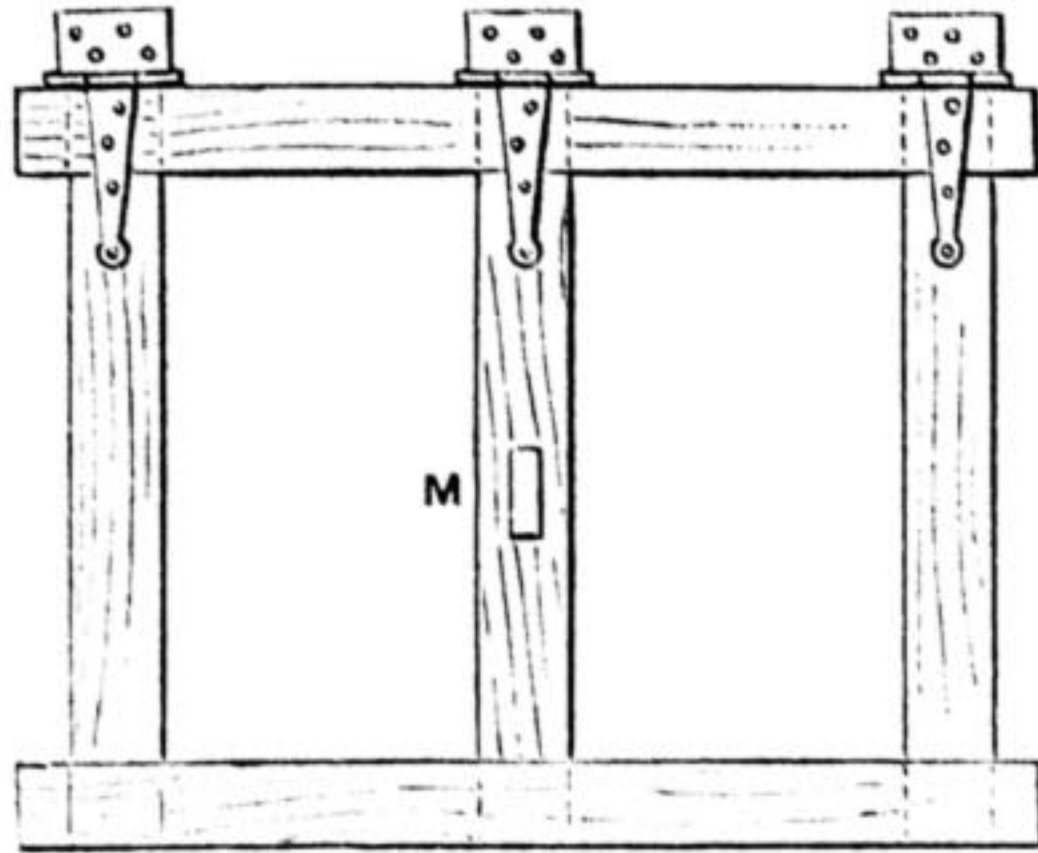
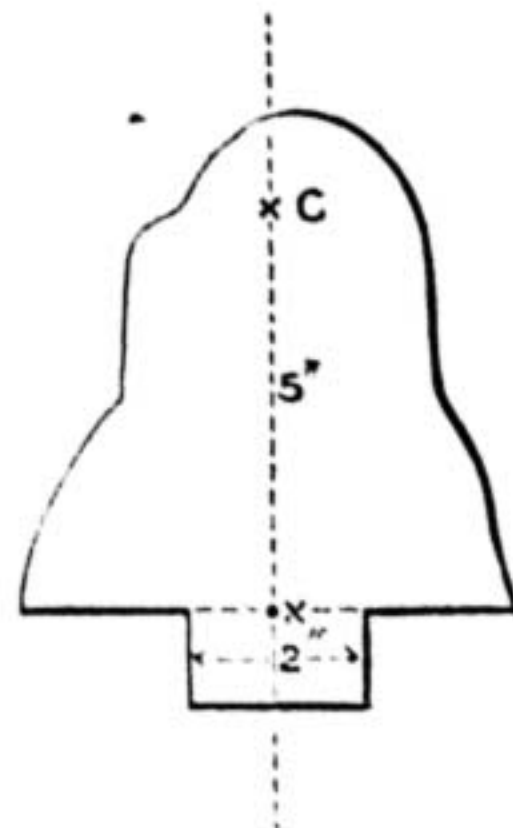
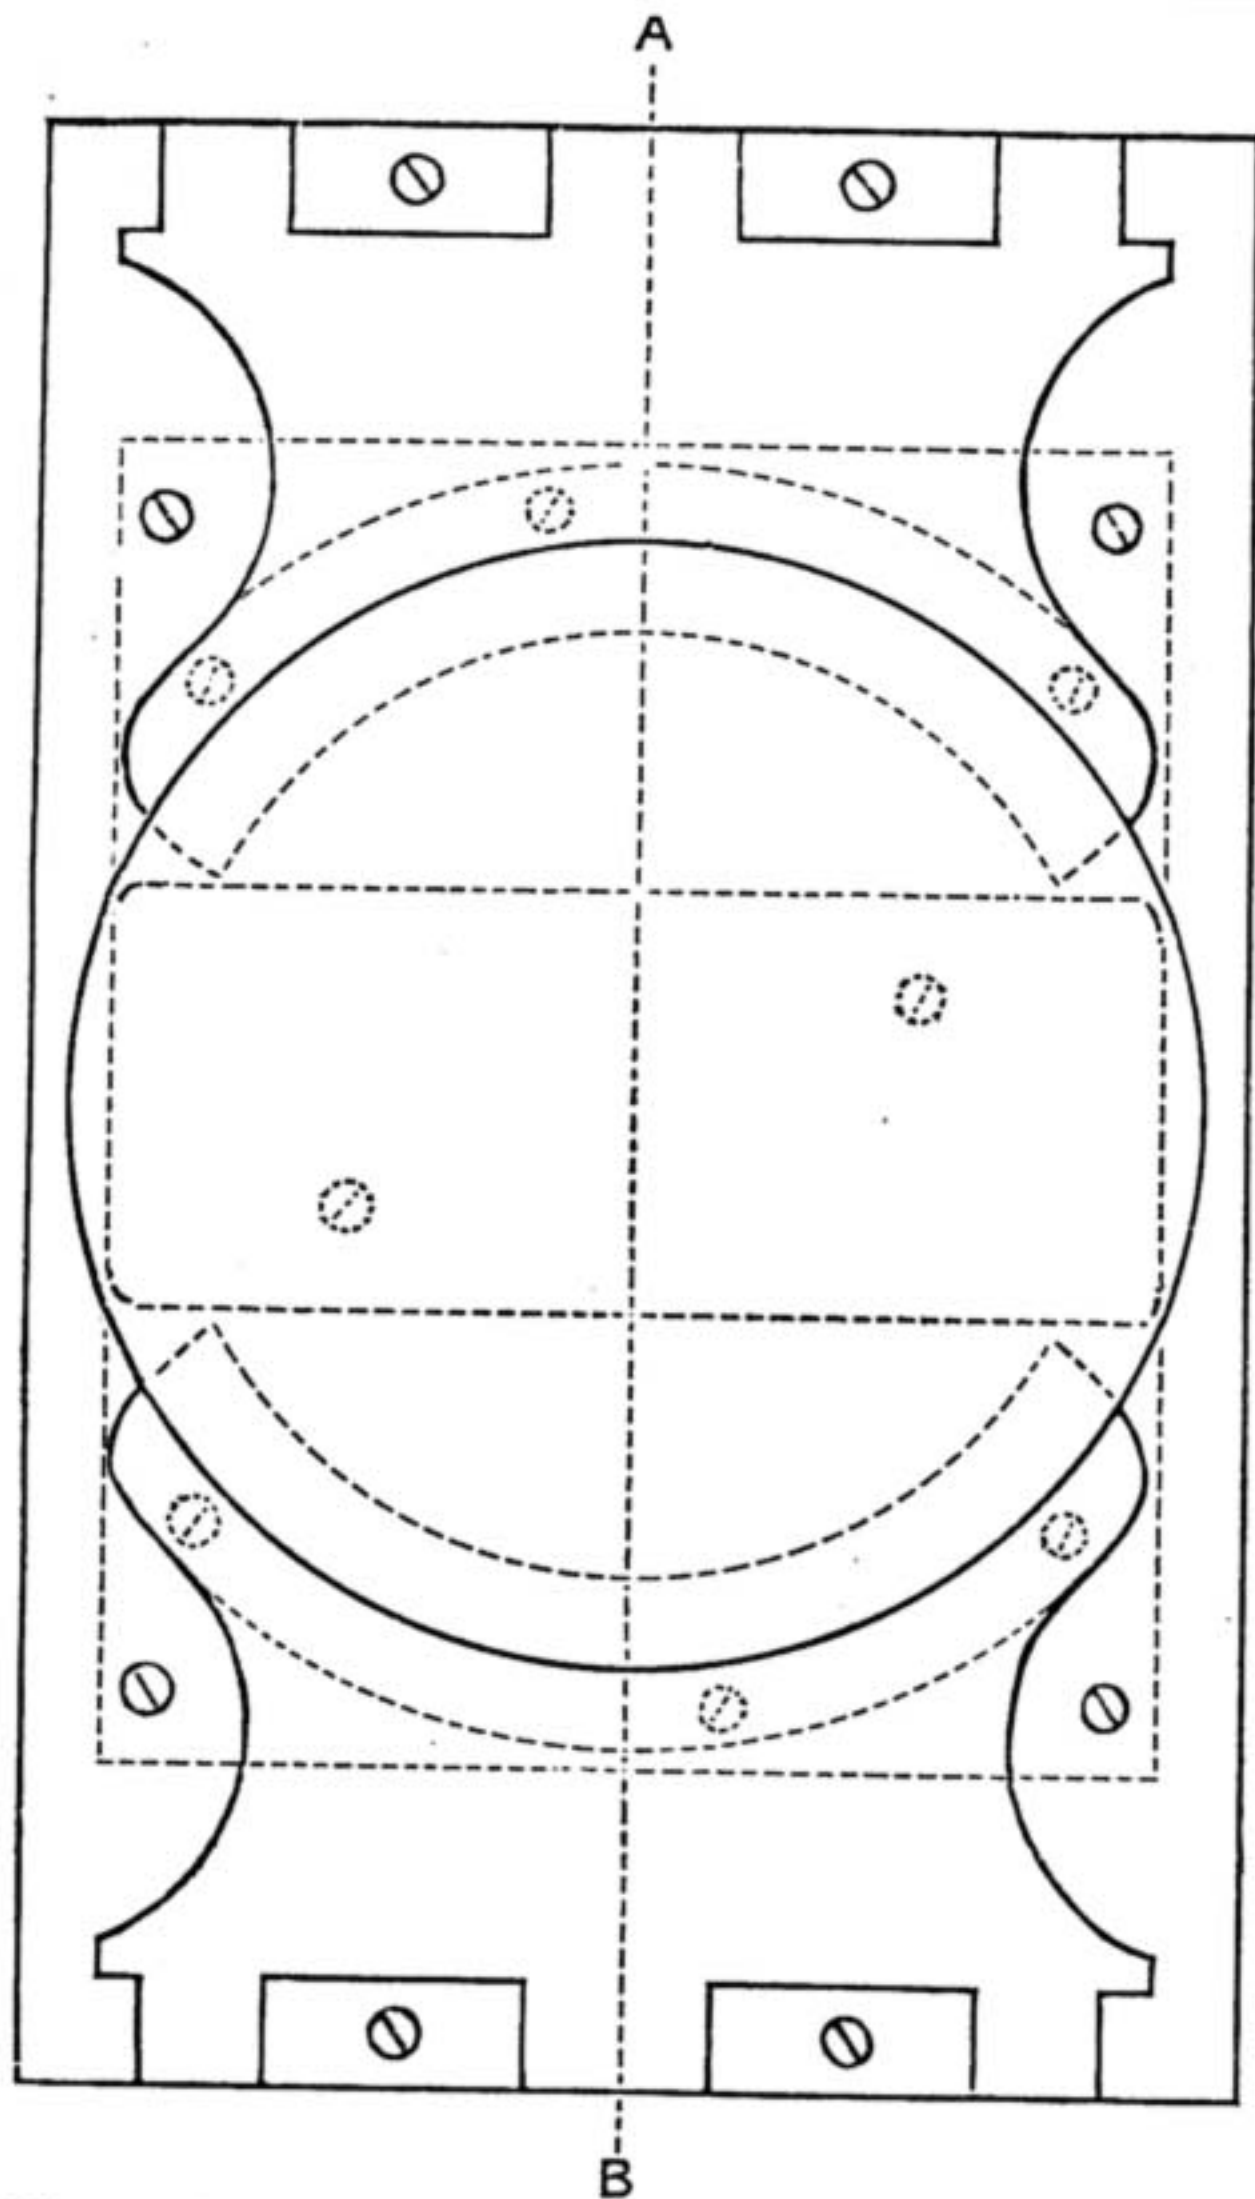
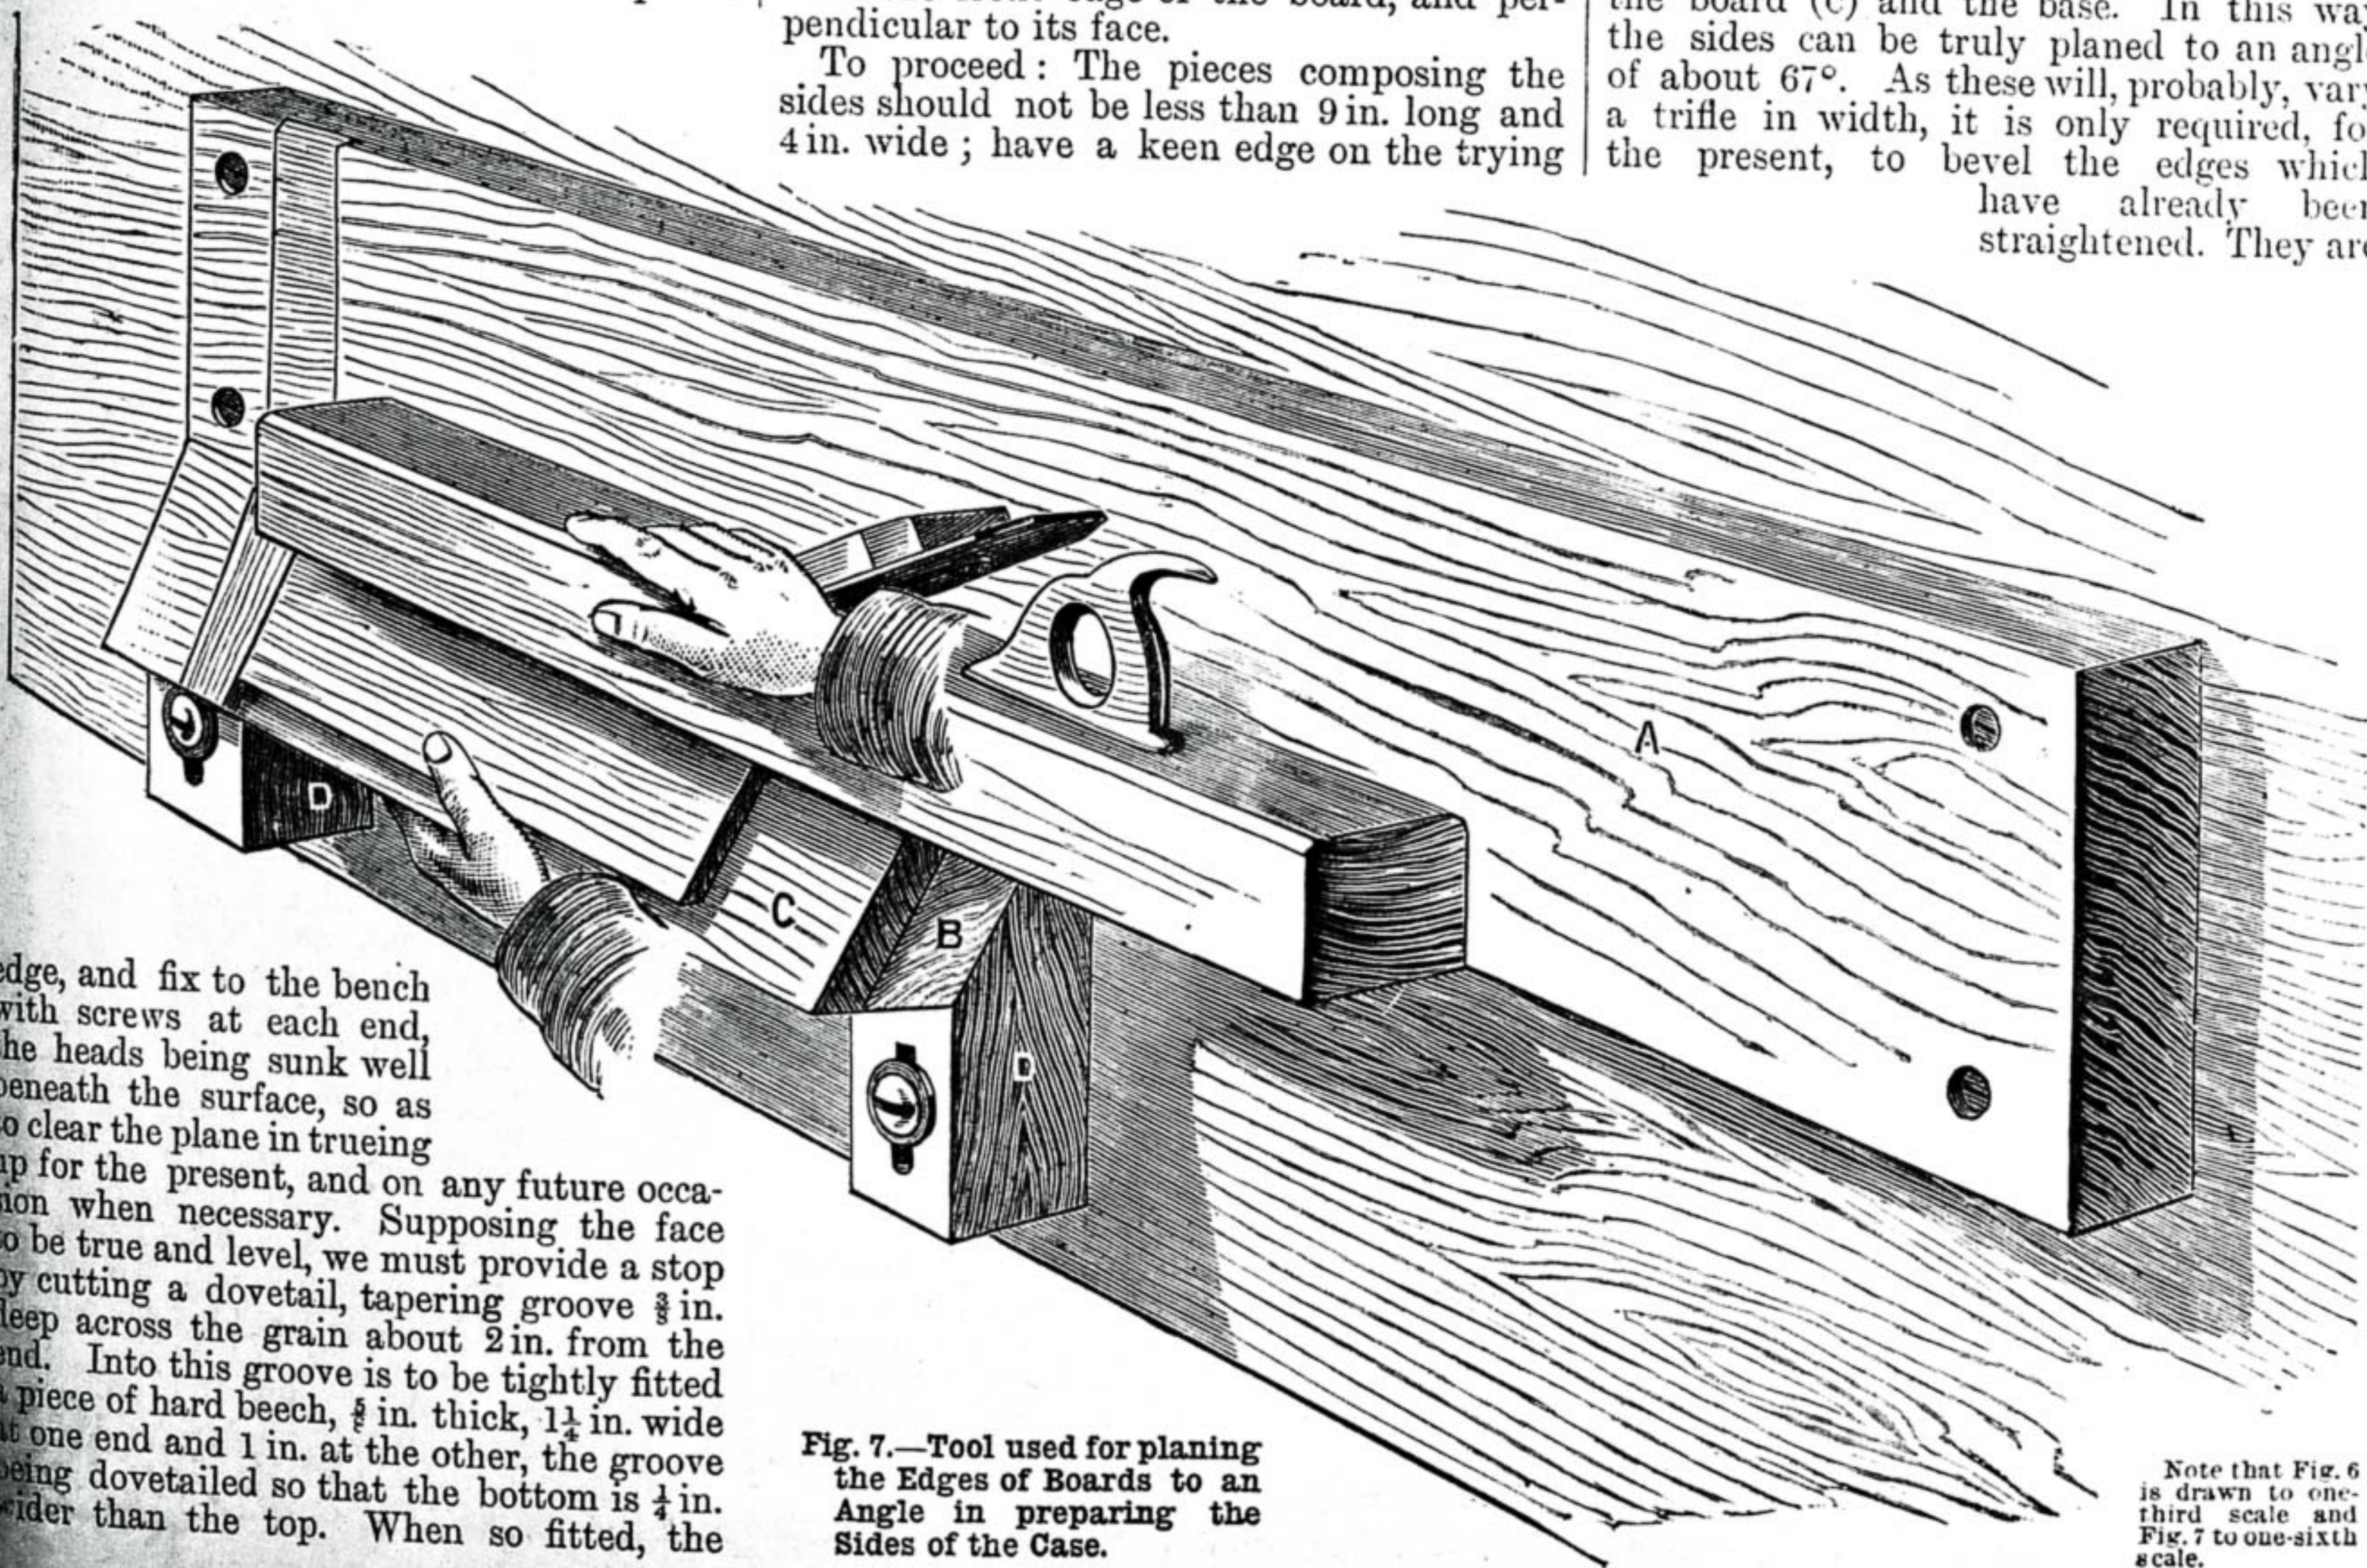

Fig. 1.—Plan of Treadle.
Fig. 2.—Tin Templet for Headstocks. (Scale, 2 in. to 1 ft.)
Fig. 6.—Diagram showing Method of Mounting Uprights and Segments in Lathe for turning them out of Solid Piece.
Fig. 7.—Tool used for planing the Edges of Boards to an Angle in preparing the Sides of the Case.
Fig. 1.—Lead D Trap. Fig. 1 A.—Section of ditto. Fig. 2.—Bell Trap: section. Fig. 3.—Iron Box Trap: section. Fig. 4.—Iron Box Trap, sometimes called D Trap: section. Fig. 5.—Lead S Trap, showing Place for connecting Air-Pipe. Fig. 6.—Lead P Trap. Fig. 7.—Small Lead S Trap, with Cleansing Screw A. Fig. 8.—Hellyer's Anti-D Trap with Square Outgo. Fig. 9.—Diagram showing Manner of conducting Wash from Bath into Drain through Open Gully-Traps. Fig. 10.—Open Channel Bend fixed in Brick Manhole for Inspection. Fig. 11.—Field's Flushing Tank for Drains. Fig. 11 A.—Side Section of ditto. Fig. 12.—Gully-Trap, with Inlet at Back. Fig. 13.—Hellyer's "Drain Sentinel." Fig. 14.—Disconnecting Air Chamber with Hellyer's "Drain Sentinel" Trap and Channel leading to it—A, Trap; B, Channel; C, Inspection Arm; D, Arm for Air Inlet; E, Air-Pipe to Manhole. Fig. 15.—Section of Hellyer's Ventilating Drain Syphon—A, Grating and Inlet for Air; B, Inlet for Air when A is covered.
One of the oldest traps now in use is the D trap, shown at Figs. 1, 1A. It was formerly extensively used for water-closets, and is very often found in combination with that abomination the pan-closet, though it is sometimes made in smaller sizes for sinks, lavatories, etc.
The dip-pipe B is often fixed some distance from the band, as may be seen in the section Fig. 1, thus leaving a space for soil and any foul matter to collect, and it is generally either too short or too long; if the former, the trap soon ceases to act as one if there is the least syphonage; and if the latter, the soil and paper are more than ever impeded from leaving the trap.
Another trap whose sins are many is shown in section at Fig. 2, and is styled the "bell trap," on account of the bell which is fastened to the grating and which forms the "dip" or water-seal. It is used for sinks, and also for surface-water. The space all round the stand-pipe soon becomes filled with dirt, as the passage of the water through the trap is so sluggish that it cannot keep itself clean, and the inevitable result is the pulling up of the grating and knocking off the bell, when the water runs off merrily, and leaves a free vent for anything in the shape of bad air or gases which should chance that way.
Since Messrs. Beard and Dent first introduced their patent cast lead traps, great strides have been made in this department of sanitary science. Figs. 5 and 6 show specimens of their S and P traps: they are made in any size from  $1\frac{1}{4}$  in. to 4 in., and possess many advantages over the old D trap. They have no places in which filth can accumulate, they are smooth, without any joints or seams, and are very easily flushed. The "Dubois traps" are similar in appearance to Beard and Dent's; they are drawn by hydraulic machinery the same as lead soil-pipe, and to my mind are superior to the cast-lead traps, being absolutely of one thickness throughout, perfectly smooth, and there is no chance of finding any small holes in them as we sometimes do in cast goods. In using the smaller sizes of these traps, whether cast or drawn, it is always better to have them with a cleaning screw such as may be seen at A, Fig. 7, for facility in clearing, should they at any time become choked. Nothing less than a 4-in. trap should be used for fixing under a water-closet, and it should be soldered by a wiped joint to a lead branch pipe passing through the wall to the soil-pipe outside. If the closet be some distance away from the vertical soil-pipe, so that this branch exceeds 4 or 5 feet in length, it will be better to solder in a 2-in. lead pipe as shown in dotted lines at A, Fig. 5, for the purpose of ventilation. This pipe may be carried above the roof independently of the large soil-pipe ventilator, or may join that pipe at a point above the highest water-closet branch.
From Fig. 2 it will be seen that each leg consists of two pieces mortised together so as to form a T. To keep the legs as rigid as possible, I got stays forged from iron 1 in. × ¾ in., and, having japanned them, fastened them to the woodwork with ¾-in. bolts. These stays were made of one piece, bent into the shape of the letter V, and so high as to let the centre upon which the crank hangs pass through their apex. The tops of the legs must be carefully cut away from each side, leaving a shoulder, upon which the sides of the bed may rest.
I used wood 1½ in. × 2½ in., and let it into the ends of the cross pieces of the legs, as seen in Fig. 2. A couple of little bolts secured it very firmly. The stand is now ready to mound the flywheel and crank shaft. That used for this lathe was bought, the flywheel being 27 in. diameter, with four speeds, and one small speed for metal work. The throw of the crank is 2½ in., which, doubled, makes 5 in. from the highest to the lowest point. Then the pitman comes to a point in the treadle halfway between the hinge and the place the foot rests on, so that the treadle rises 10 in. in front, which I find to be a fair allowance for a lathe of this size.
The treadle for the bent crank shaft is simply a frame like Fig. 1, about 18 in. shorter than the bed, and 2 ft. 3 in. wide. The position of the central member, m, is determined by that of the dip in crank axle. It should be directly under it. There is a mortise cut, through which the pitman passes, and a  $\frac{3}{8}$ -in. bolt across will serve as a pin, on which the latter hooks. The wood for this form of treadle would be 1  $\frac{1}{2}$  in.  $\times$  3 in. or 4 in.
I supposed, in my former article, that the mandrels were not inserted in the headstocks until this stage of construction was reached, the reason being that it is difficult to ascertain their exact position in the headstocks. A templet of tin can now be made, like Fig. 2. The space in the lower part
As arranged at the close of the last article, our next proceeding is to set out the fillets to which the sides of the case are to be screwed. They are  $\frac{3}{8}$  in. thick, and are fixed flush with a line gauged all round  $\frac{3}{16}$  in. from the edge, as shown in Fig. 2. As the interior of the plates are duplicates of each other, two sets are required, and the fillets at both ends are cut away in places, to clear the mechanism of the lower part of the arms (κ κ, Fig. 5), also on the front plate alone, to clear the lever, L. Having fixed the fillets, we next prepare the sides of the case, not forgetting a previous remark respecting the character of the wood to be used for the purpose. As this affords an opportunity for the display of good workmanship, I may here pause to remark that as, in many workshops, the same bench does duty for all classes of work, whether rough or smooth, it is just possible that the last job may have been of a coarse description—such as the repair of garden utensils or work of a like character—the consequence being that particles of a gritty nature have become embedded in the bench-top, rendering it extremely difficult to avoid scratching the surface of such work as that in hand. Presuming that the worker wishes to escape these troubles, he is hereby advised to procure a piece of deal, 3 ft. long, 11 in. wide, and 2 in. thick. Plane up one
plane, with the back iron set close, and plane up each piece carefully to  $\frac{1}{4}$  in. thick; then square one edge, and set off the rabbet at each end so as to support the ends of the case at a distance of  $8\frac{1}{2}$  in. apart. As it is important to have all exactly of the same length, scribe a line across one end of each piece with the cutting end of the scriber; the distance from this to the second line is then gauged with a pair of compasses, and, having also gauged a line to the depth required, run a saw-cut across just outside the lines, and finish with a paring chisel. In order to shoot the edges to the correct angle, we must arrange matters as shown in Fig. 7, where the board already attached to the bench is utilised as a base on which to construct a suitable tool for the purpose. In the first place, observe that the stop is removed; the baseboard (A) is chamfered on its front edge, and to this is hinged a board (B), about 18 in. long, 5 in. wide, and  $1\frac{1}{2}$  in. thick, the hinge being attached  $\frac{1}{4}$  in. below the face of the board; over this another strip (C) is screwed, in order to raise the work within reach of the plane iron. In this latter piece a stop is required, similar to that in the baseboard; and the adjustment to the correct angle is effected by means of a pair of wedges (D, D), having each a mortise cut in the centre, so that they can be clamped to the bench by a round-headed screw and washer. The mode of using the above appliance will be obvious from the position of the hands as shown in the illustration, the work being held and pressed against the plane by the thumb of the left hand, whilst the plane is firmly kept to its work by the right as it slides in the angle formed by the bevelled edge of the board (C) and the base. In this way the sides can be truly planed to an angle of about  $67^\circ$ . As these will, probably, vary a trifle in width, it is only required, for the present, to bevel the edges which have already been straightened. They are
Note that Fig. 6 is drawn to one-third scale and Fig. 7 to one-sixth scale.
attached at each end by three round-headed brass screws,  $\frac{1}{2}$  in. long, and it will ensure regularity, and greatly enhance the finished appearance, if the holes are set out with the square and compasses. In order to preserve the parallelism of the two plates while the sides are being fitted, we shall require a temporary piece to act as a stay; it is about 3 in. wide, rabbeted squarely at the ends to the correct length, and screwed to the flat at *I* (Fig. 2), its true edge being, of course, coincident with the angle of the plates. Now, secure the first side temporarily to the opposite flat with two screws at each end, its true edge being also carefully placed at the extreme angle on the right of Fig. 2. Here it will be noticed that an opportunity offers to rectify any little error or defect in the working of the slides, as hinted towards the close of the last article, seeing that the plates are now held parallel, and the interior is easy of access. When satisfied that each part works quite smooth and regular, we may pass on to fit another side below the first, with their true edges adjacent. Having produced a perfect joint, fix with a screw at each end next the true edge, and mark off the width at the angle below; then unwind the screws and bevel this edge to the mark. When this second side is secured in position we must return to the first, mark the width at the angle, and, having bevelled the edge, refix, and proceed in the same way with the third, and all the rest in turn until the last is reached, when, to make the joint between the seventh and eighth, it will be necessary to remove the first of the series out of the way until the joint between the last two sides is perfect; then replace it, and reduce the last edge very gradually, lest the piece be spoiled in the attempt, finishing by trimming the ends off flush and very slightly rounding the edges. As we still require access to the interior, the polishing, etc., must be deferred, and two sides each from the top and bottom of the case must be removed, the inside of each being marked with a  $\frac{3}{8}$ -in. chisel in Roman numerals to denote their respective places. Placing these out of reach of injury, the circles at *x, x* (Figs. 1, 2, and 5) now claim attention. They are prepared from half-inch close-grained mahogany, and the easiest method will be to turn them out of the solid, as shown, by mounting on a chuck with the screws passing through holes set out on a circle  $6\frac{3}{8}$  in. diameter, the same being used eventually to attach them in position. All necessary holes are bored of the proper size before the surrounding substance is materially reduced, to avoid risk of splitting. To lessen waste of material, the interior portion may be removed with a thin parting tool, and reserved for constructing the eye-pieces later on. It is scarcely necessary to remind the worker that both sides of each ring should be trued up in the lathe, as it is of importance that they be of the same diameter externally and internally, and also of even thickness throughout, to ensure a smooth, even movement. By fitting a slip of wood in the opening at each end of the case, a centre may be found, and a circle described to coincide with the interior of the rings, and their correct appearance and position ascertained from Fig. 1.
The two uprights (*v, v*, Figs. 2 and 5) are turned out of one piece of mahogany, 12 in. long, 8 in. wide, and  $\frac{1}{2}$  in. thick; one side is planed true and level, and also one edge; it is then secured to a chuck in the manner denoted by the *full* lines in Fig. 6, and a centre line (*A B*) scribed on the face parallel
to the true edge through the centre found as it spins in the lathe. After being turned to the proper thickness, the opening is bored true and square to the same diameter as the outside of the rings, which may be used as gauges in the operation. In the preparation of the two segments (*w*, Fig. 2) we may economise the mahogany by attaching a piece of deal,  $2\frac{1}{2}$  in. wide and 1 in. thick, across the centre of the opening in the uprights already on the chuck, and, on each side of this, a piece of mahogany  $6\frac{1}{2}$  in. long,  $2\frac{3}{4}$  in. wide, and  $\frac{1}{2}$  in. thick, the position of each being indicated by the *dotted* lines in Fig. 6. The inner curve on these segments is the same as the rings, and the outer edge is rounded as in Fig. 5. When this is accomplished, two pieces of brass plate,  $6\frac{1}{8}$  in. long,  $\frac{3}{4}$  in. wide, and  $\frac{1}{16}$  in. thick, are bent to the proper curve, and fixed to the segments by fine  $\frac{1}{2}$ -in. screws, inserted about 1 in. apart. Now proceed with the base plate (*u*, Figs. 2 and 5): Plane to  $\frac{1}{2}$  in. thick, and set out the mortises at each end, with the inner edges  $\frac{1}{8}$  in. in excess of the length of the case; then the shoulders of the tenons are squared from the true edge of the piece and fitted to the base, to ensure their being firmly put together without fear of splitting; after which, a moulding is worked round the upper edge of the base, the case is laid on end on the bench, and the segments secured to the uprights, which have been well rubbed on the curves with blacklead, a slip of paper being interposed between the brass and the ring to avoid pinching. On removing the paper, the groove thus formed should slide smoothly over the rings. In providing the clamping action at *F* (Figs. 2 and 5), the instructions already given will apply to the milled head, which has a screw projecting about  $\frac{1}{8}$  in. diameter, the small casting being tapped to suit, and the boss on the under-side let into the segment. The point of the screw bears on the free end of a thin spring of hard brass,  $1\frac{1}{2}$  in. long and  $\frac{3}{8}$  in. wide, secured in a recess by a small screw at the opposite end to that at which the pressure is applied. When all these little operations have been effected, the uprights can be cut to the outline in the figure, and finally glued to the base, especial care being exercised to be certain that they are exactly perpendicular to the base, after which, if deemed advisable, the joint may be further strengthened by passing a fine screw, about 1 in. long, obliquely upwards on each side of the central tenon, and  $3\frac{1}{2}$  in. apart. This completes the stand and exterior of the case, with the exception of two brass clips, one of which is seen at *Y* (Fig. 2), which secure the object-box carrier to its seat; and four little handles, as at *m* (Fig. 1), having pins, which are fitted and glued in  $\frac{1}{4}$ -in. holes bored in the centre of the length and breadth of each alternate side.
used as patterns from which the outlines of the rest can be marked, being careful to have each set of equal length, measuring from the edge of the hole to the point at which the two limbs are hinged together; and, in particular, the bevelled faces must be cut to the same angle; after which, grooves along the centre of these faces are set out, and cut  $\frac{1}{2}$  in. wide, and a little over  $\frac{1}{4}$  in. deep. Now halve the upper set at the top, as shown, removing sufficient to enable the inner edges to form an angle of  $90^\circ$ . A brass butt hinge connects the upper limb to the lower, and as the countersink is reversed in one set of holes, the screws must be replaced by those of a round or mushroom-headed pattern. If this is properly done, the upper limb will move freely round on the hinge when the lower is pressed flat on the bench, either side up. It will be well, therefore, to apply this test as each screw is inserted. Held against the lower edge of the hinge by a screw is a piece of brass having a slot cut the width of the screw at *d*, which is used to clamp the table (*c*, Fig. 5) to the arm after adjustment by the screw at *f*, the wood being mortised to match the slot in the plate, to allow of the necessary movement. To complete the arms, we require four brass brackets (*f, f*, Figs. 2 and 5), fitted with a screw  $\frac{3}{4}$  in. long, and a spiral spring of hard drawn brass wire, about No. 18 B.W.G.
position of the two portions being exactly denoted in Fig. 5. On clamping the screws, we can ascertain the lengths of the tubes and thickness of the washers which maintain the arms at the proper distance asunder; at the same time we can determine the thickness of the pieces of mahogany at *j, j* (Figs. 2 and 5), which occupy the space between the arms and the ends of the case. On reference to Fig. 5 it will be seen that the tubes and pinions are secured in their respective position by screws or rivets passing through them; after which, the back plate may be taken apart from the sides, and the milled heads can be attached to the pinions which pass through from the inside of the plate—not forgetting the brass washers, which bear on each side of the plate—before finally driving the heads on to the tapering ends of the pinions. The whole of the mechanism may now be connected in readiness for the reception of the optical portion, the preparation of which will be treated in my next paper.
**Lathe Bits and Drills.**—J. H. N. (Malvern Wells) writes:—"Seeing some forms of bits and drills for the lathe by OLLA PODRIDA, on page 324 of No. 21 of WORK, I could not resist sending you a suggestion for Fig. 7, an enlarging drill, for which I hope you will excuse me taking the liberty. The plan is, instead of having the wood on sides of drill, to cast in sand a plug of zinc, which is within the means of every one, rather larger than drill, to allow for turning down; then bisect plug down the middle, and cut down with a hack-saw; then fix on drill same way as shown in Fig. 7. The reason I propose a zinc plug is because it will wear better than wood, and not be so likely to be affected by the scrapings or chips cut by the drill."